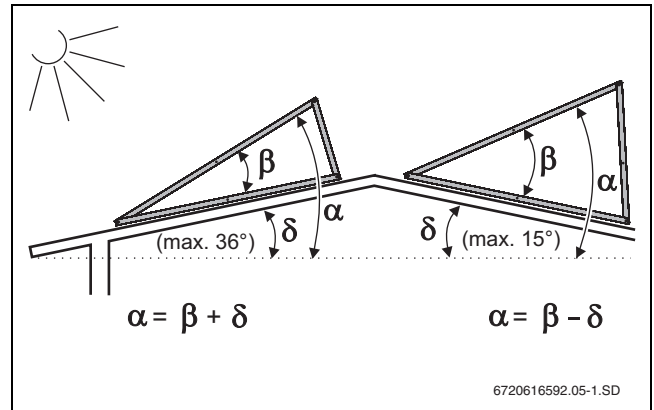

Fig. 7 Angles for sloped roofs
- ▶ Only install this system on flat roofs or roofs with a shallow pitch of 0 - 36 ° (or 0 - 15 °, fig. 7).